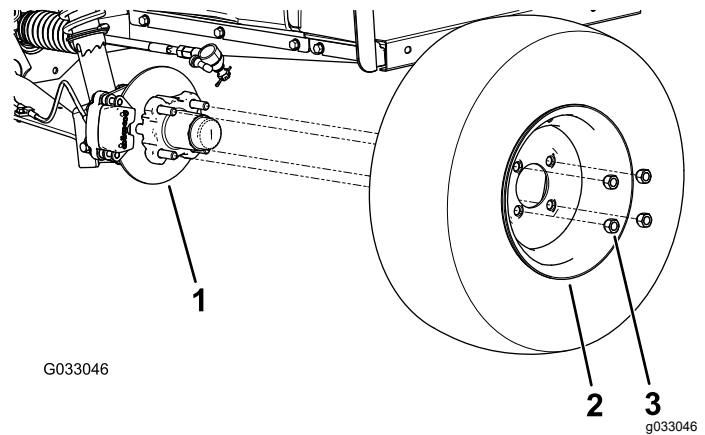

Figure 22
2. Remove the 4 lug nuts that secure the wheel to the hub (Figure 22).
4. Align the holes in the wheel to the studs of the hub and assemble the wheel to the hub with the valve stem outward (Figure 22).
5. Secure the wheel to the hub using the lug nuts (Figure 22).